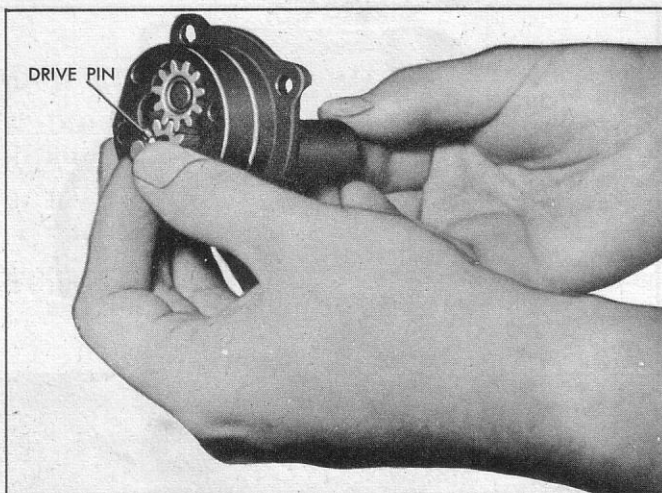

Fig. 53—Removing Drive Shaft From Pump
4. Finger press drive shaft from pump drive gear and housing (fig. 53).